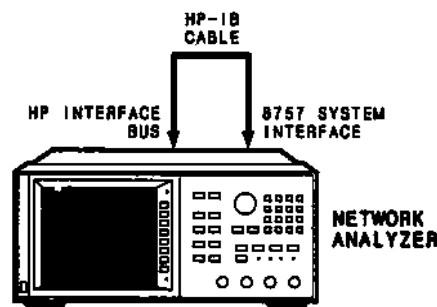

Figure 4-3. HP Interface Bus and 8757 System Interface Test Setup
1. Set up the equipment as shown in figure 4-3. The HP-IB cable connects the HP INTERFACE BUS and the 8757 SYSTEM INTERFACE ports on the analyzer rear panel.